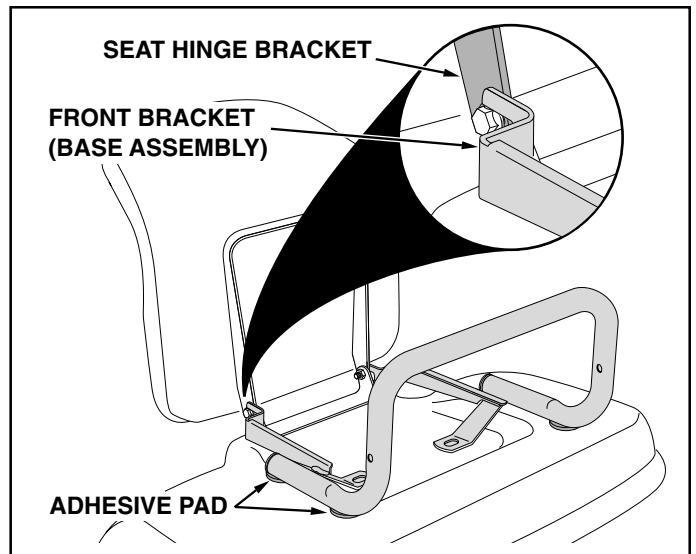

FIGURE 3
- Spread apart the slotted ends of the base assembly's front brackets just enough to fit them on the outside of the seat hinge bracket. Slide the slots over the bolt heads. See figure 3.
- Align the assembly's bottom brackets over the holes where you removed the seat springs. Check to see if the base assembly's tubing rubs against the fender. If the tubing rubs, apply the adhesive pads to the fender, under the tubing. See figure 3.